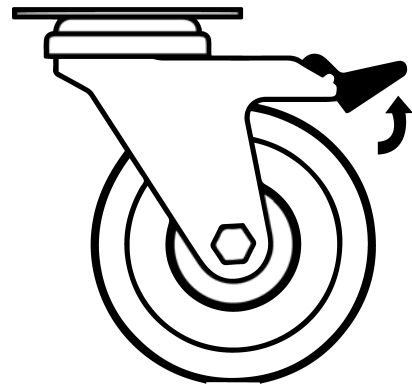

Fig 2. Castor Unlocked
- Please ensure when placing the incubator into place that the castors can be accessed so they can be locked (**Fig 3**) and unlocked (**Fig 2**). Please get in touch with your supplier or Thermoline should there be any castor damage.